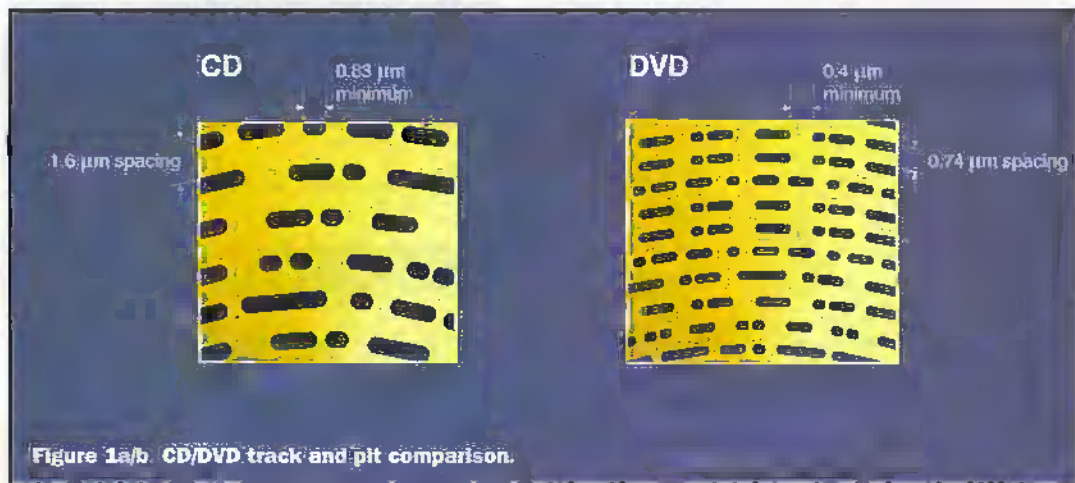

Figure 1a/b. CD/DVD track and pit comparison.
For DVD the wavelength of the laser diode is specified as 635-650nm compared to 780-790nm. This, and a higher numerical aperture (NA) of 0.6 against 0.456 that produces sharper focus, has enabled the spot size to be reduced from 1.6µm to 1.0µm. As a result the track pitch has been reduced from 1.6µm to 0.74µm; and the minimum pit length from 0.834µm to 0.4µm (Figure 1a and 1b). At the same time the nominal scanning velocity has been increased from 1.2m/s to 3.49m/s. Together, these changes increase the nominal data rate from 1.536Mb/s to 11.08Mb/s,